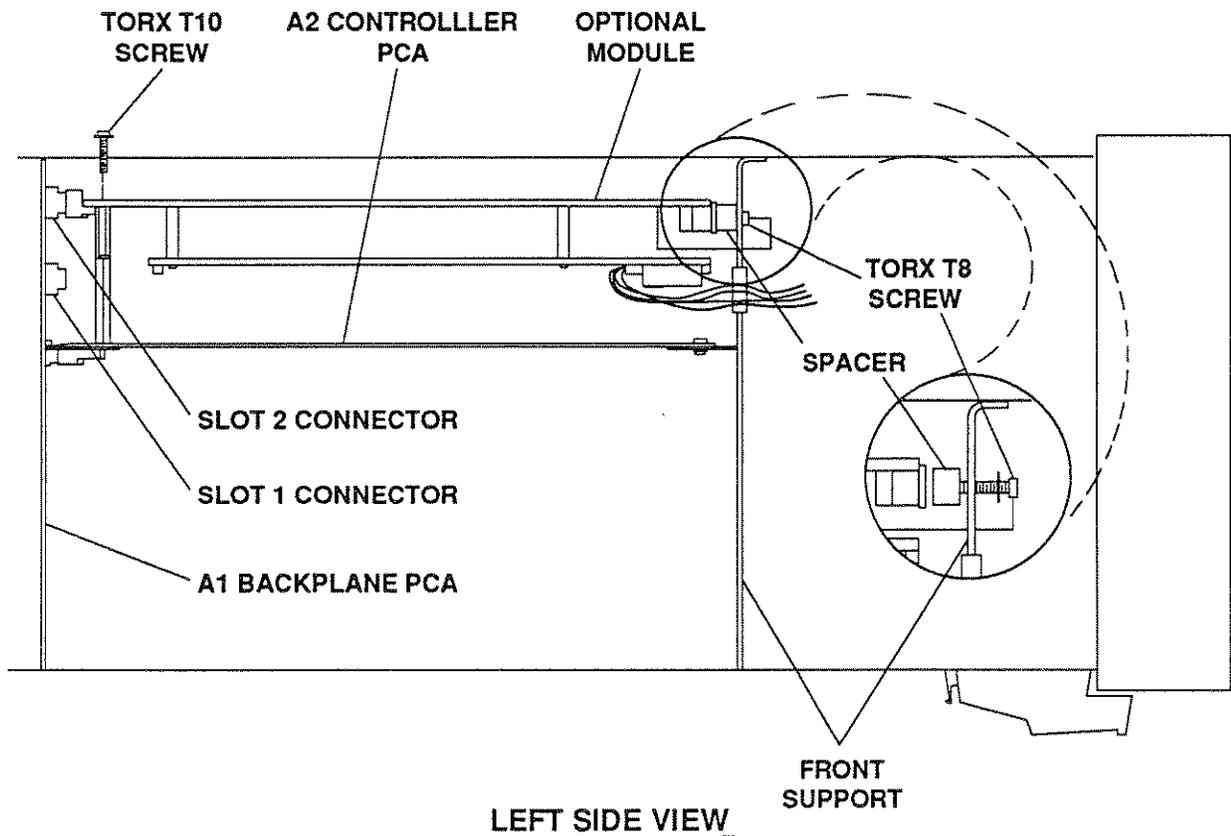

Figure 8-15. Remove and Replace Optional Internal PCAs
2. Disconnect any cables connected to the module (see Figure 8-15).
2. If installed, remove the optional B-size modules installed inside the mainframe (see Figure 8-15).